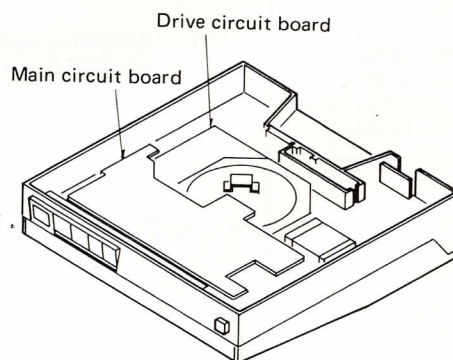

Fig. 29
3. How to turn over the unit (Fig. 29)